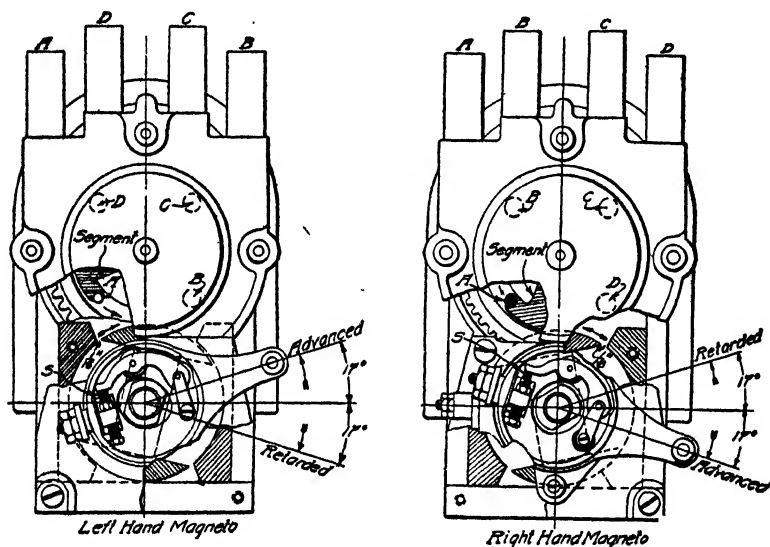

Fig. 92. Method of Advancing and Retarding Spark, Splitdorf Magneto
*Magneto Timing.* Timing is usually 30 to 40 degrees, which means that the spark occurrence can be advanced or retarded half that distance from a neutral line representing the upper dead center position of the piston. As shown by Fig. 92, the allowance is 34 degrees in the Splitdorf magneto, "left" and "right" in this connection having